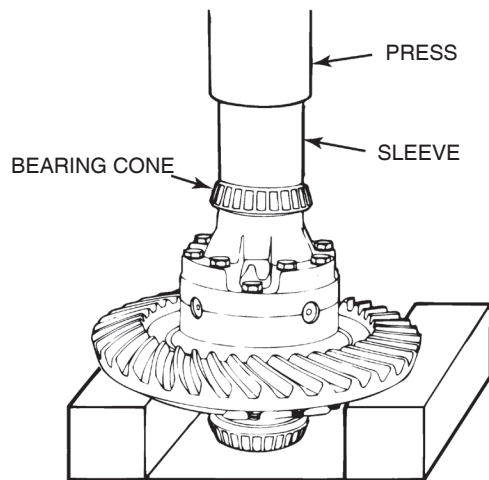

Figure 5.30
1. If the bearing cones on the main differential case were removed, install a new cone and cap in a fully-matched set from the same manufacturer. The bearing cones are not interchangeable. Use a press and sleeve to install the cones in the case. Press only on the inner race of the bearing. Figure 5.30.